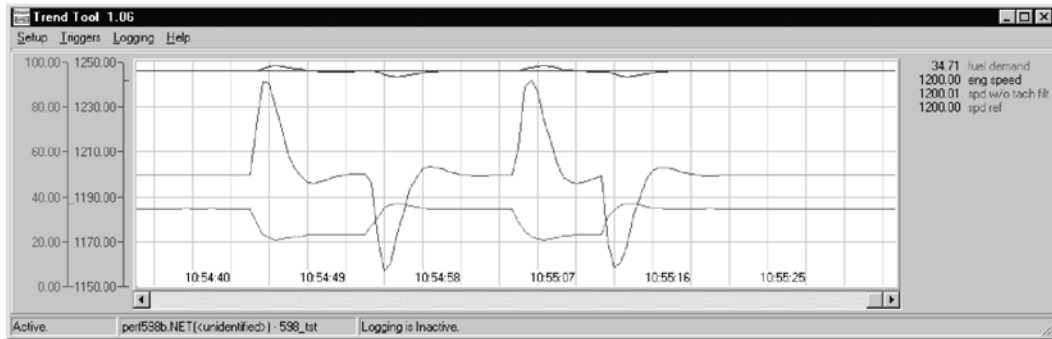

Figure 5-4. Trend Tool Trace Example 4
20. Figure 5-4 shows the transient response with the Gain Ratio and Window Width disabled. In this example Gain is 1.235; Reset is 0.28, and Compensation is 0.88. Load step is ~15%.